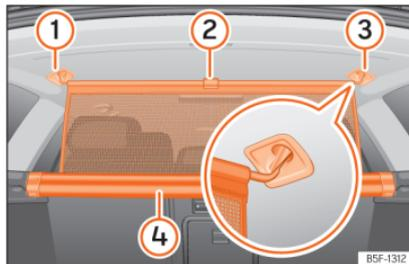

Fig. 138 In the luggage compartment: securing the net partition.
- Pull up handle » Fig. 138 ② to remove the net from the casing ④.
- Hook in the net partition on the right or left side ③ [magnified image].
- Hook in the net partition into the housing on the other side ① by pulling the rod.